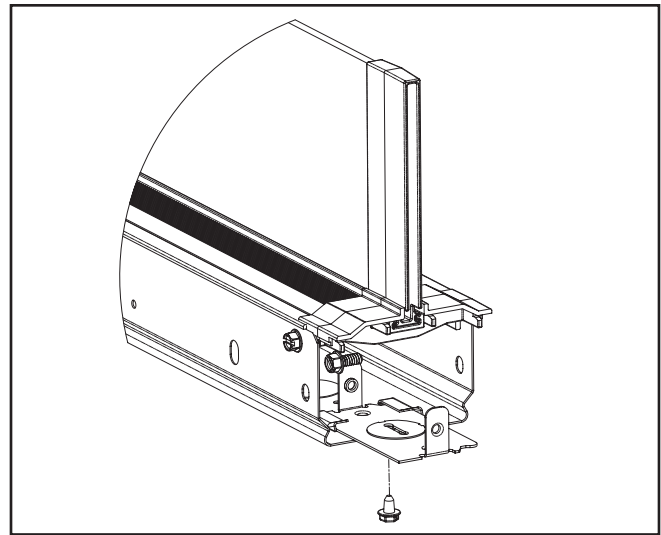

Figure 3.
5. Install the heat sink bridge and waveguide spacer onto the end of the heat sink and waveguide as shown (figure 3).